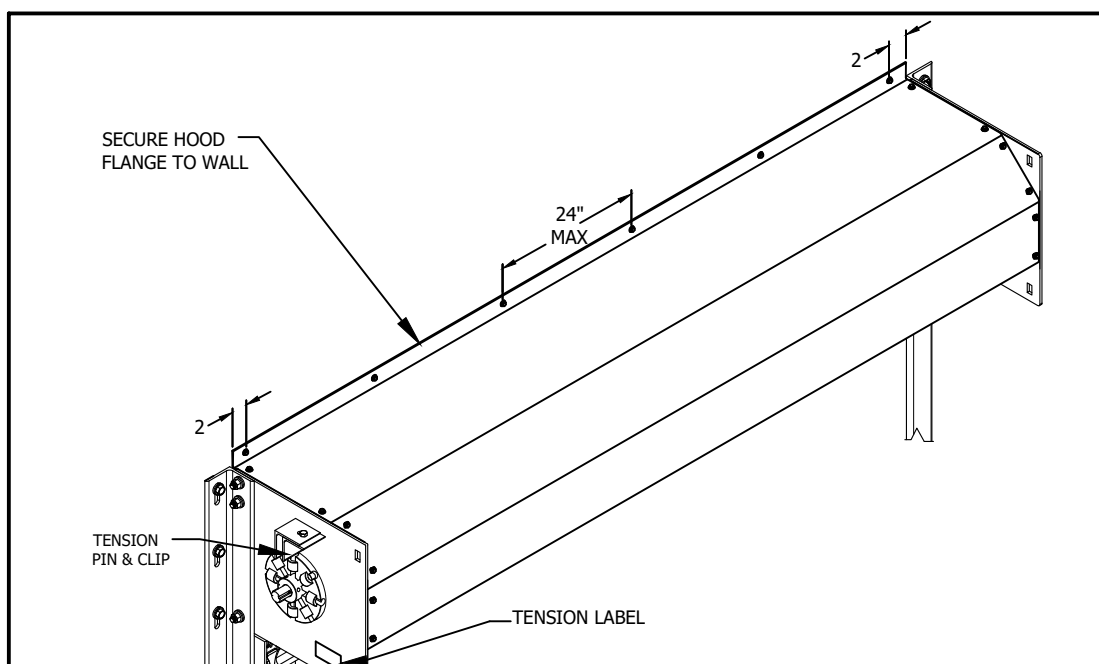

FIGURE 20
- e. Insert tension wheel pin and install tension pin retainer clip as shown in Figure 20.
- b. Attach hood to headplate hood bands with self-drilling fasteners provided and approved by ASTA America. Use two fasteners per flat hood surface as shown in Figure 20.